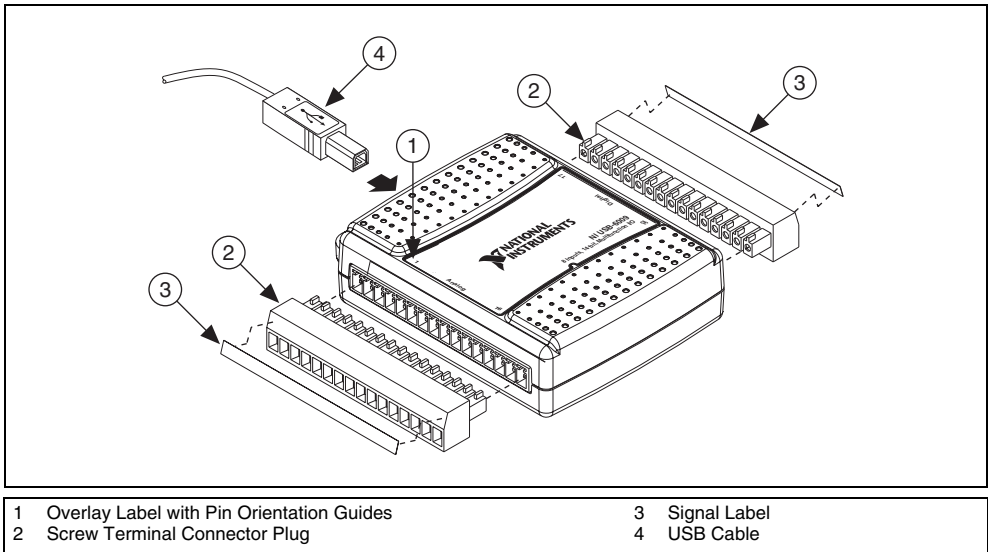
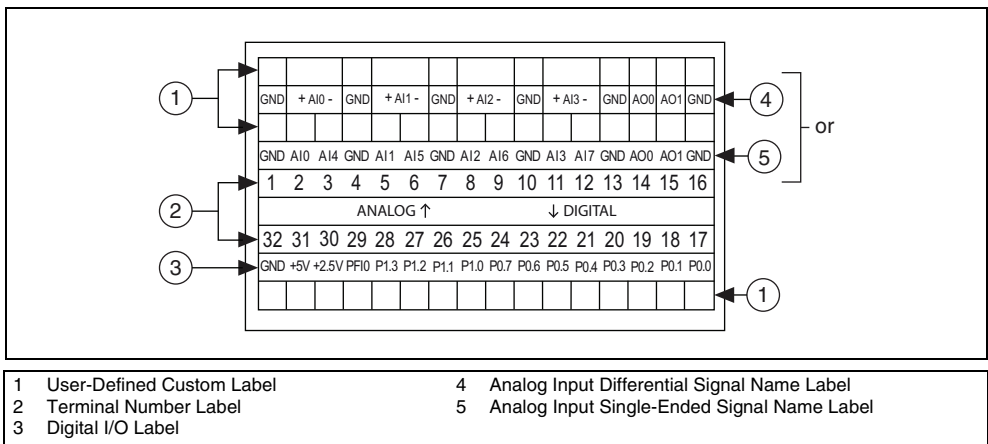

Figure 2. Signal Label Application Diagram
Figure 3. NI USB-6008/6009 Signal Labels
3. Install the 16-position screw terminal connector plugs by inserting them into the connector jacks as shown in Figure 2.
4. Affix the provided signal labels to the screw terminal connector plugs. You can choose labels with pin numbers, signal names, or blank labels, as shown in Figure 3. Choose one of the labels, align the correct label with the terminals printed on the top panel of your device and apply the label, as shown in Figure 2.